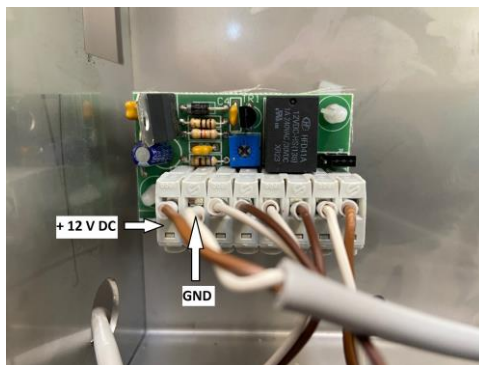

FIG.4
DOPO I 5 MINUTI VIENE TOLTA TENSIONE AI FOTODIODI ( FIG.4)
1. MENTRE LAMPEGGIA LA SPIA VERDE, CONTROLLARE CHE LA SCHEDA E' ALIMENTATA ( FIG.4)